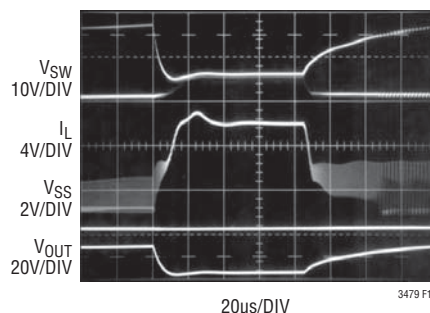

Figure 10. Output Overload with Inrush Current Protection Disabled
shows an output overload with inrush current protection disabled. Notice that soft-start remains high, and that the inductor current does not return to zero. Figure 10 illustrates the benefits of inrush current protection. The output short initiates a new soft start cycle reducing the inductor current. After the fault has passed, the inductor current slowly returns to its equilibrium value. To ensure bond wire integrity, the inductor current should not exceed 8A for more than 10ms.
Figure 10 is a line graph showing the efficiency of the proposed converter as a function of the output current (I_{OUT}) in Amperes (A). The y-axis represents Efficiency in percent (%), ranging from 50 to 80. The x-axis represents I_{OUT} (A), ranging from 0 to 1.0. Three curves are plotted, corresponding to different input and output voltage conditions: